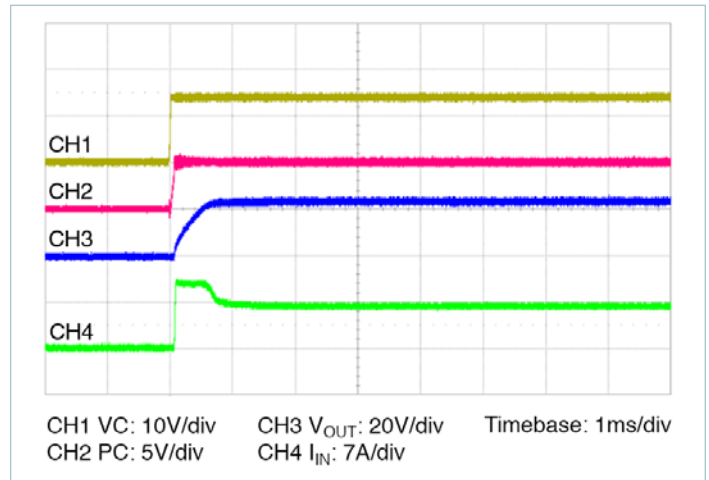

Figure 14 — Start up from application of VC; V_{IN} pre-applied $C_{OUT} = 375\mu\text{F}$
- **Stand-alone operation (VC applied after V_{IN}):** In this case the VTM output will begin to rise upon the application of the VC voltage (See Figure 14). The Adaptive Soft-Start Circuit may vary the output rate of rise in order to limit the inrush current to its maximum level. When starting into high capacitance or a short, the output current will be limited for a maximum of 1200 μ s. After this period, the Adaptive Soft-Start Circuit will time out and the VTM module may shut down. No restart will be attempted until VC is re-applied or PC is toggled. The maximum output capacitance is limited to 375 μ F in this mode of operation to ensure a successful start.